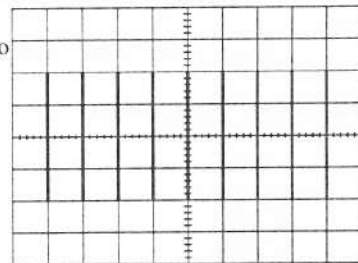

Figure 4-3
- 5) Set the AC-GND-DC switch to the AC state. A waveform as shown in the figure 4.3 will be displayed on the CRT screen.
- 8) Adjust the ∇ POSITION and $\triangleleft \triangleright$ POSITION controls in appropriate positions so that the displayed waveform is aligned with the graticule and voltage (Vp-p) and period (T) can be read conveniently.